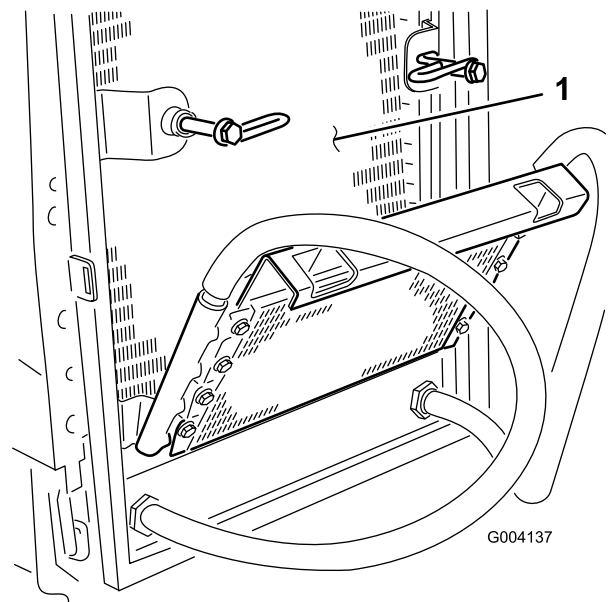

Figure 47
6. Thoroughly clean both sides of the oil cooler and the radiator (Figure 47) with compressed air.